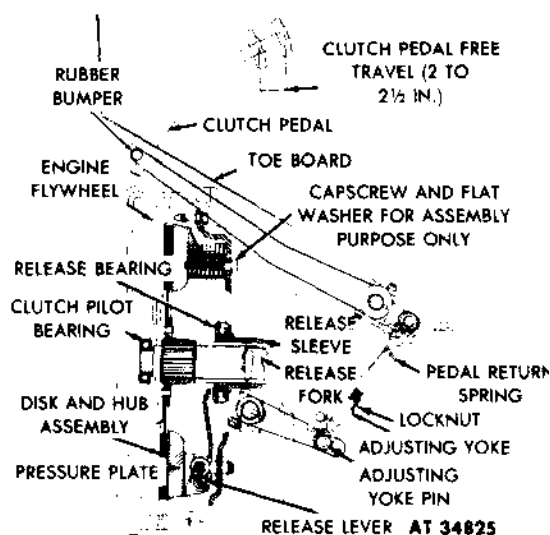

Figure 2-53. Diagram of clutch and control linkage.
b. *Adjustment (fig. 2-53).*
(1) Loosen the locknut on the control rod.
(2) Pull outward on the adjusting yoke pin at the lower end of the control rod, and separate the adjusting yoke from the throw out release lever.
(1) Detach the control rod yoke from the release lever by pulling the pin outward (fig. 2-53).
(2) Remove the nut and screw securing the control rod lever to the shaft (fig. 2-53). Remove the control rod and lever assembly from the shaft.
(3) Unhook the upper end of the clutch return spring from clip, and remove the spring at the lower end (from the bracket on the frame rail).
(4) Remove the nut and screw securing the clutch pedal assembly to the lever shaft. Force the pedal assembly off the end of the shaft. Remove the key.
(1) Position the control rod and lever assembly on the end of the shaft as shown in figure 2-53. Secure the lever to the shaft with a screw and nut.
(2) Secure that control rod yoke to the release lever by pushing the pin (fig. 2-53) inward.
(3) Place the slotted key in position and install the clutch pedal assembly onto the shaft. Install the screw and tighten the nut securing the pedal assembly to the lever shaft.
(4) Hook the upper and lower end of the clutch return spring in place.